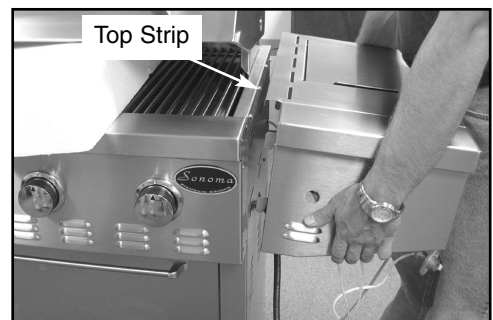

Fig. 4
2. Place a piece of styrofoam from the packaging in the grill to leave the grill hood propped open slightly. (See Fig. 4)
3. Attach the right side burner by inserting the four shelf hooks into the slots on the side of the grill. (See Fig. 4)
4. After inserting the four shelf hooks, press the side burner shelf against the grill and press downward until the shelf locks in place. Make sure the top strip is hanging all the way inside of the grill before pressing downward. (See Fig. 4)